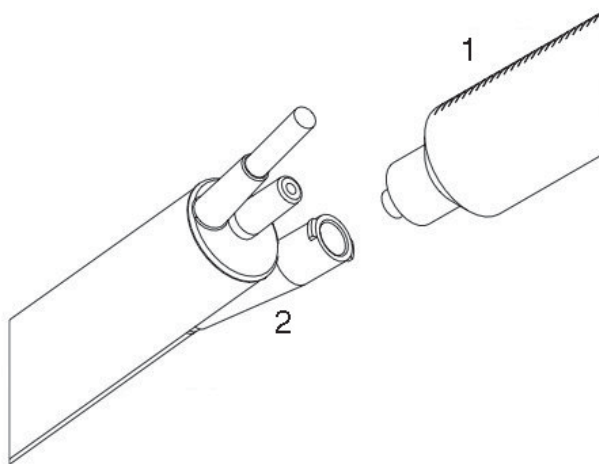

Figure 5.5. Flushing Ultrasound Handpiece.
C. Flush the irrigation lumen as follows (see Figure 5.5 below):